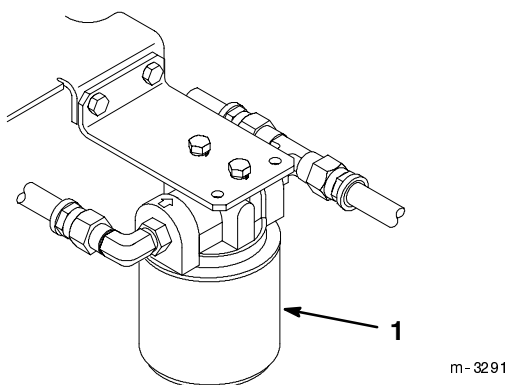

Figure 79
3. Place drain pan under filter, remove the old filter and wipe the filter adapter gasket surface clean (Fig. 79).